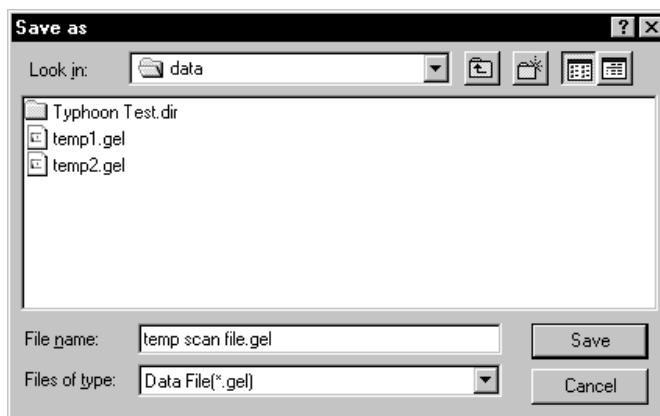

Figure 12-5. The Save as window.
2. In the Scanner Control window, click the **Scan** button. The Save as window appears (figure 12-5).